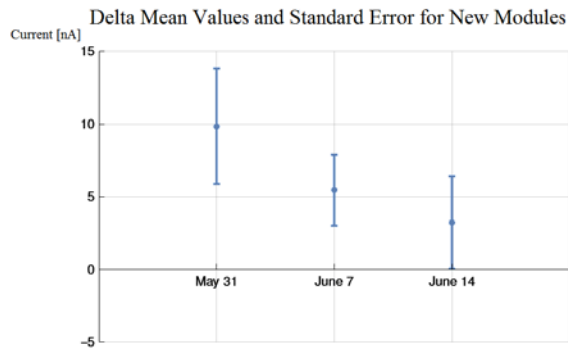
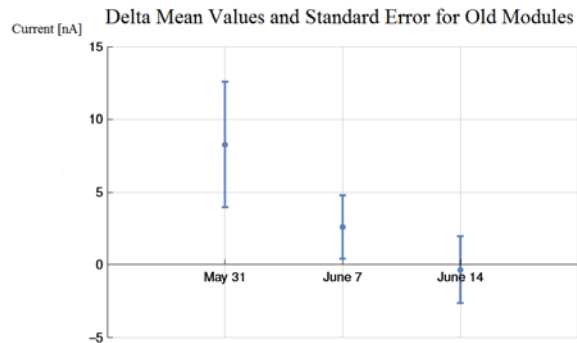

Fig. 4 Change of mean values and standard error from one week to the next, for five new modules
Fig. 5 Change of mean values and standard error from one week to the next, for three old modules
- ★ Delta mean values and standard error of five new modules (Fig. 4) and delta mean values and standard error of three old modules (Fig. 5).